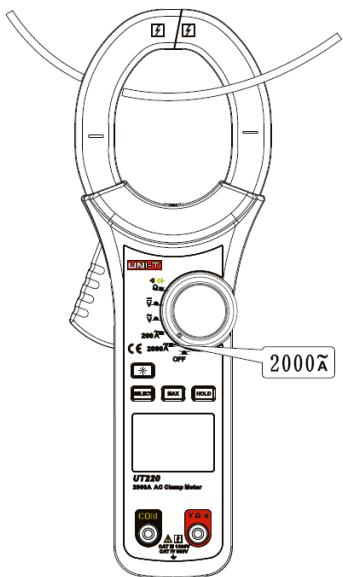

Figura 8
6. MEDIDA DE CORRENTE AC 2000A (2000~) (VER FIGURA 8)